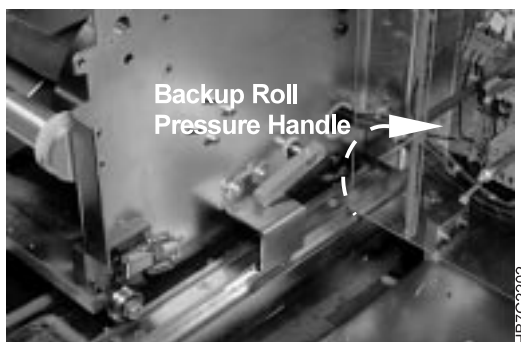

Figure 306. Backup Roll Pressure Handle
- 8 Rotate the backup roll pressure handle, as shown in Figure 306 on page 363, clockwise to loosen the pressure against the speed roll.